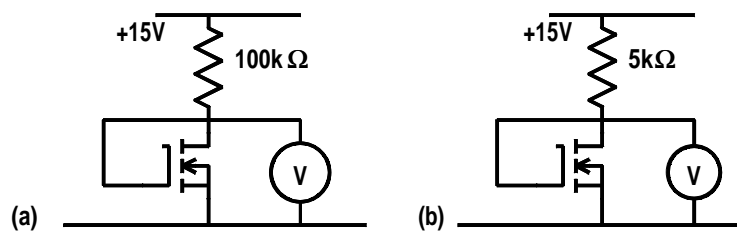

Figure 38.5: Determination of enhancement MOSFET parameters.
It is not possible to use the concept of I_{DSS} for an enhancement type MOSFET since there is no current for zero gate to source bias. Another difficulty is that many of the component suppliers' catalogs only quote maximum ratings for the components. It is therefore necessary to have a quick way of determining the MOSFET parameters. The circuit in Figure 38.5 (a) allows the threshold voltage, $V_{GS(th)}$, to be determined since $I_D \approx 0$ and then $V_{GS} = V_{GS(off)}$. In the circuit in Figure 38.5 (b), the drain current is determined from the voltage drop across the drain resistor. This gives an I_D and V_{GS} which can be inserted into the equation for I_D , above, and which will then allow k to be calculated.
38.3 The test circuits in Figure 38.5 were used to obtain a $V_{GS(th)} = 2.7\text{ V}$ and an $I_D = 2.3\text{ mA}$ for a $V_{GS} = 4.2\text{ V}$. Calculate the value of k in the equation for I_D .